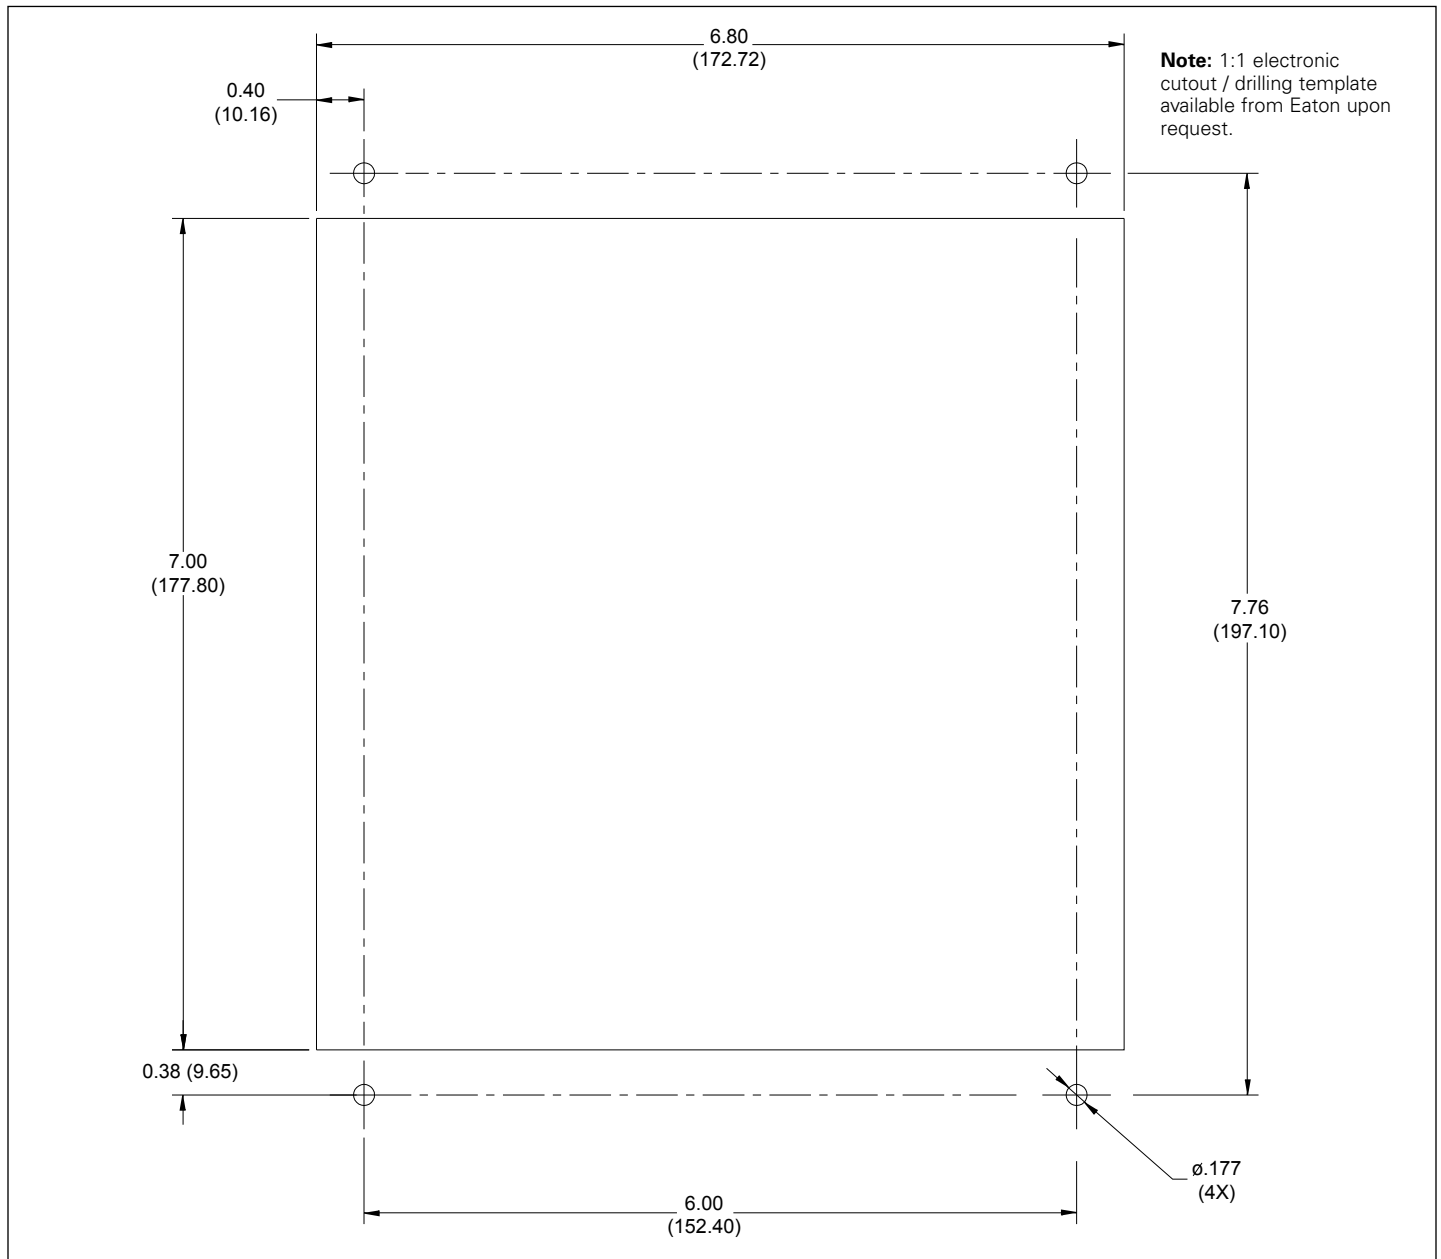

Figure 2. Back to Back Meter to Display Projection Mount Adapter Kit Cutout / Drilling Information.
Step 3. Use the mounting template (see **Figure 2**) to mark the cut-out area on the enclosure. Using an appropriate cutting tool, cut the marked area out of the panel.
Step 4. Use the drilling template (see **Figure 2**) to mark the mounting hole locations. Using a 0.177" drill bit, drill the four mounting holes.